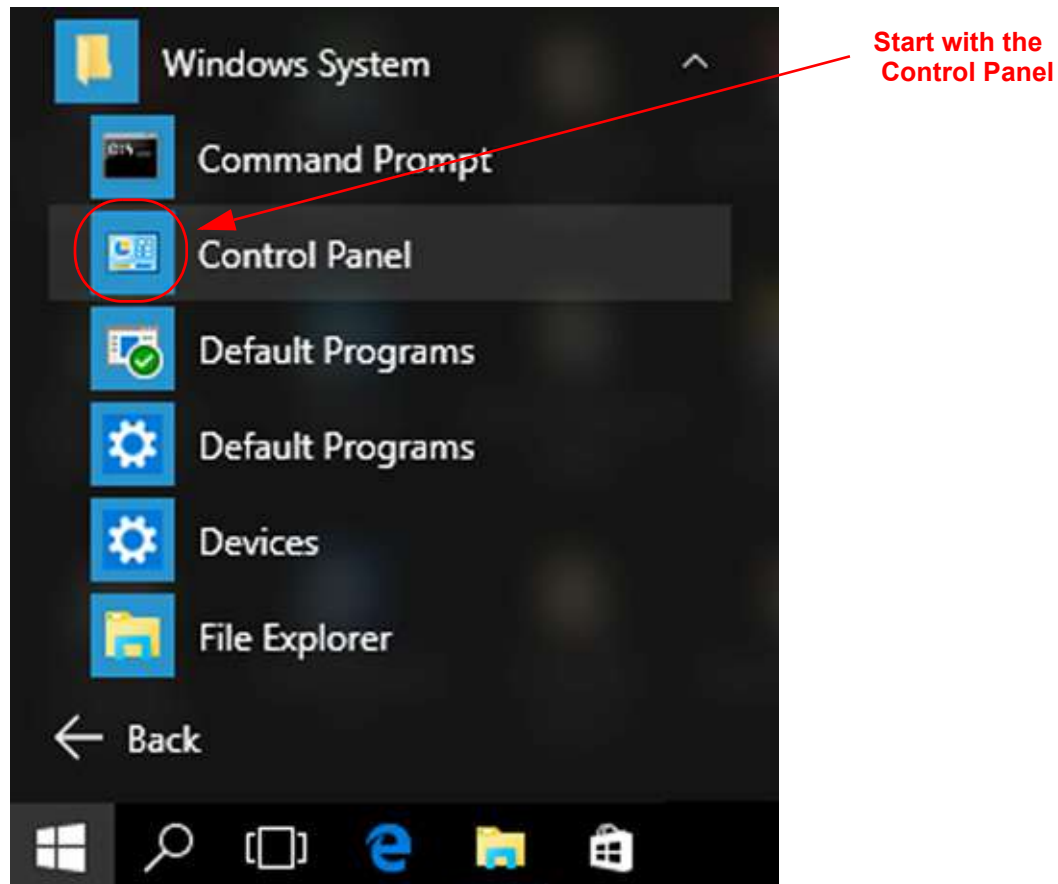

Figure 3.10: Windows 10: Start Menu -> Control Panel
1. Open the Control Panel. See Figure 3.10.